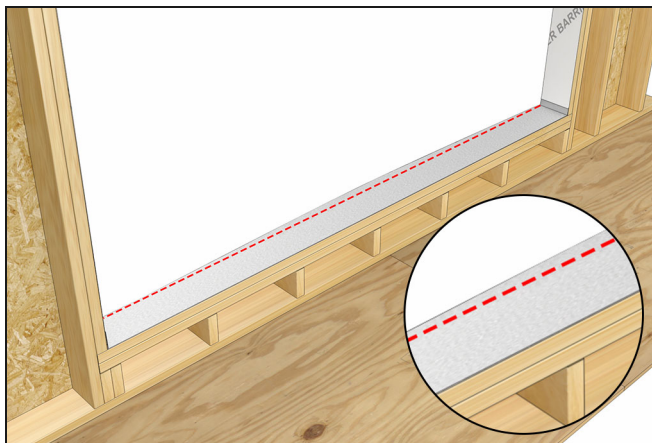

Figure 71
2. Establish an exterior plane along the sill. Use a laser level or snap-line. This will be helpful for larger multiple wide assemblies. See Figure 71.